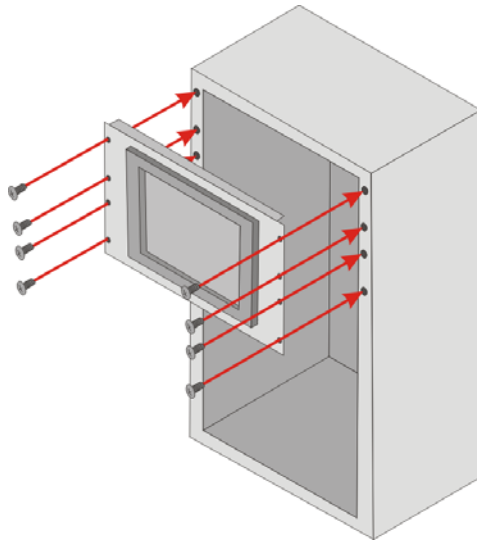

Figure 3-40: Install into a Rack/Cabinet
Step 6: Slide the PPC-F19B-BTi with the attached rack/cabinet bracket into a rack or cabinet (**Figure 3-40**).
Step 7: Once the flat panel PC with the attached rack/cabinet bracket has been properly inserted into the rack or cabinet, secure the front of the rack/cabinet bracket to the front of the rack or cabinet (**Figure 3-40**).